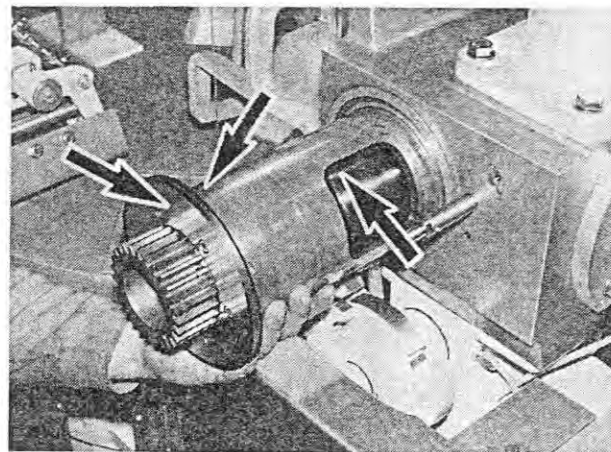

Fig. 179
Apply product to the outer running face, to both sides of the stop disk (Figure 179/arrows) as well as to the inner running face of the dosing case. Insert the rotary cylinder into the dosing case up to the stop.
4. Loosen the tommy nut (Figure 179/1). Reverse the pivoted pin and swing open the wheel box.